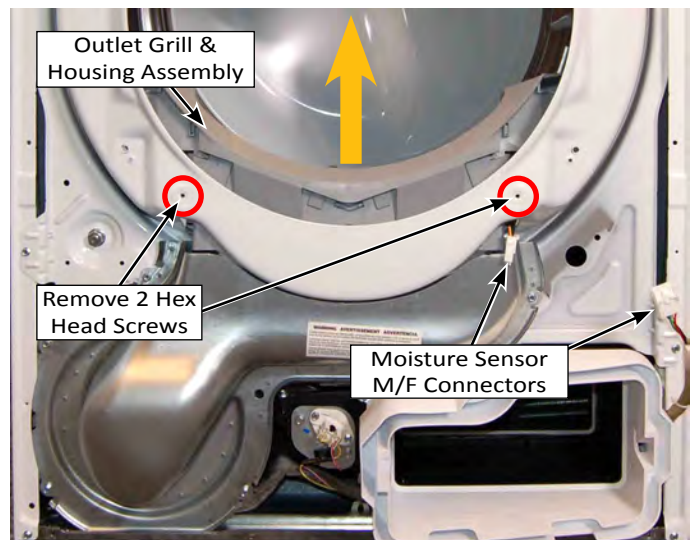

Figure 4
8. Remove two (2) 1/4" hex-head screws securing the Outlet Grill & Housing Assembly to the front bulkhead (see Figure 4).